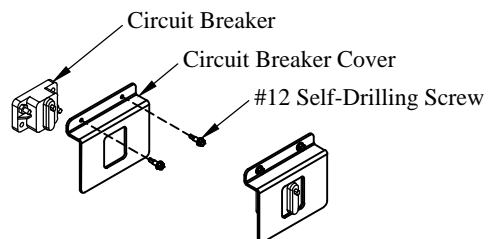

Figure 19: Circuit breaker cover.
23. **Install** the plastic circuit breaker cover over the circuit breaker using the supplied #12 self-drilling screws (Figure 19).